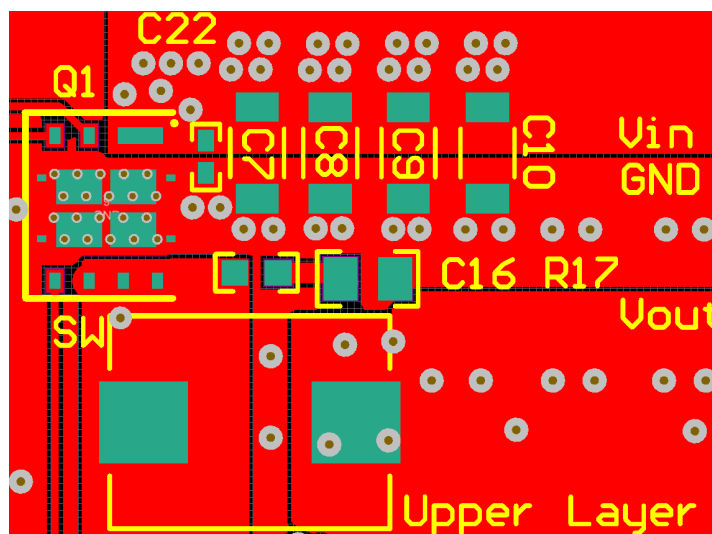
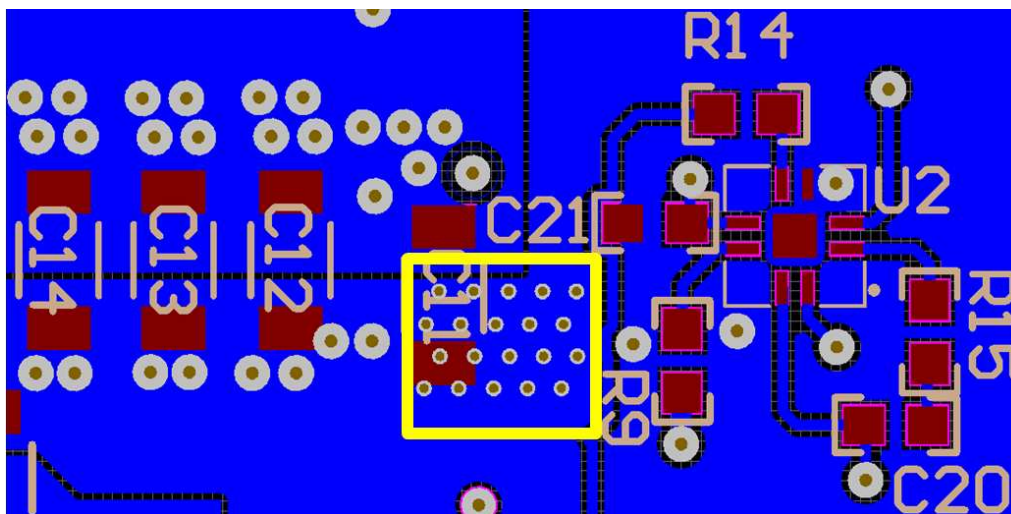

图 33. Recommended PCB Layout (Top Down View)
图 34. Recommended PCB Layout (Bottom View) (2)
- The placement of the input capacitors relative to the power block's VIN and PGND pins should have the highest priority during the component placement routine. It is critical to minimize these node lengths. As such, ceramic input capacitors need to be placed as close as possible to the VIN and PGND pins (see 图 33 and 图 34). It is recommended that one 3.3-nF (or similar), 0402, 50-V ceramic capacitor be placed on the top side of the board as close as possible to VIN and PGND pins. In addition, a minimum of 40 μF of bulk ceramic capacitance should be placed as close as possible to the power block in a design. For high-density design, some of these ceramic capacitors can be placed on the bottom layer of PCB with appropriate number of vias interconnecting both layers.
- The switching node of the output inductor should be placed relatively close to the power block VSW pins. Minimizing the node length between these two components will reduce the PCB conduction losses and actually reduce the switching noise level. In the event the switch node waveform exhibits ringing that reaches undesirable levels, the use of a boost resistor or RC snubber can be an effective way to easily reduce the peak ring level. The recommended boost resistor value will range between 1.0 Ω to 4.7 Ω depending on the output characteristics of driver IC used in conjunction with the power block. The RC snubber values can range from 0.5 Ω to 2.2 Ω for the R and 330 pF to 2200 pF for the C. Please refer to Snubber Circuits: Theory, Design and Application (SLUP100) for more details on how to properly tune the RC snubber values. The RC snubber should be placed as close as possible to the VSW node and PGND (see 图 33 and 图 34).(1)
(1) Keong W. Kam, David Pommerenke, "EMI Analysis Methods for Synchronous Buck Converter EMI Root Cause Analysis", University of Missouri – Rolla
- Use the smallest drill size allowed in your design. The examples in 图 33 and 图 34 use vias with a 10-mil drill hole and a 16-mil capture pad.
(2) The yellow box on 图 34 signifies an approximate location of the power block on the upper layer.